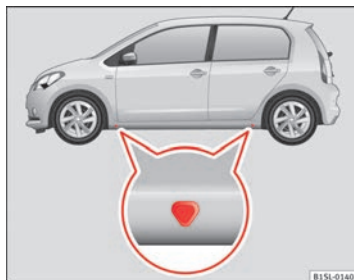

Fig. 143 Jack position points
The jack may be applied only at the jacking points shown (marks on chassis) ⇒ Fig. 143. Always the relevant jacking point for the wheel to be changed ⇒ ⚠.
5. Look below the vehicle for the jacking point ⇒ Fig. 143 closest to the tyre which has to be changed.